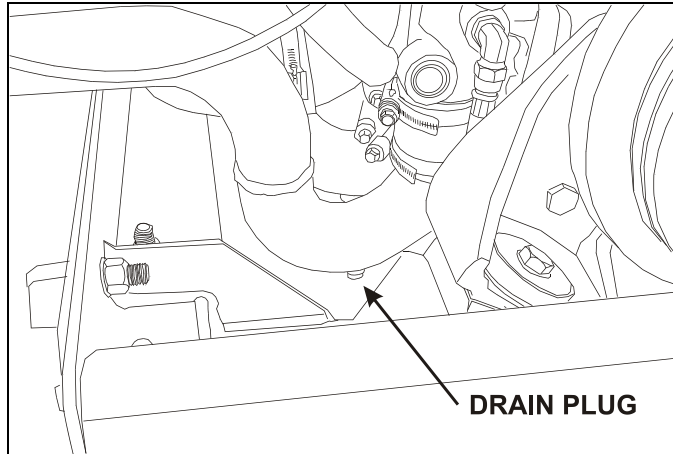

FIGURE 5: WATER PUMP DRAIN PLUG
- Open the water pump housing inlet line drain plug (Fig.5).